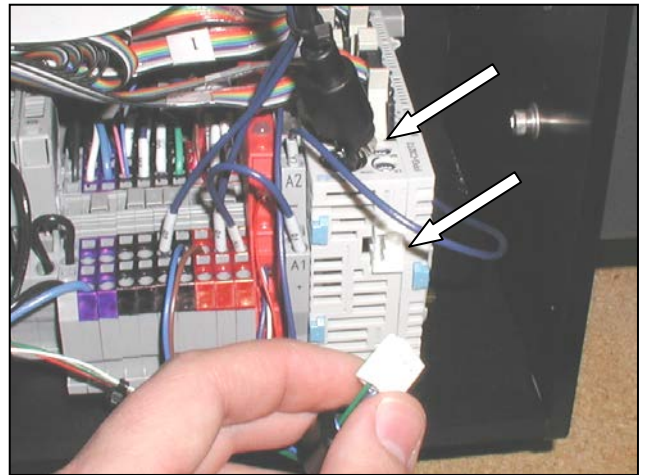

Figure 3-77. PLC Connections
3. Disconnect the touch screen communications cable and the power wiring connector (Figure 3-77).